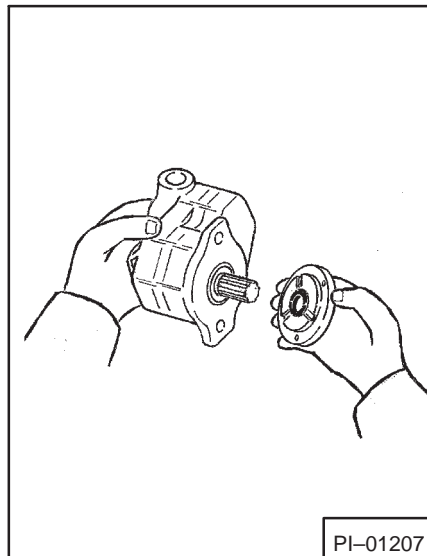

Fig. 4-28 Remove Pilot Plate and Seal
3. Remove the pilot plate and seal (Fig. 4-28).